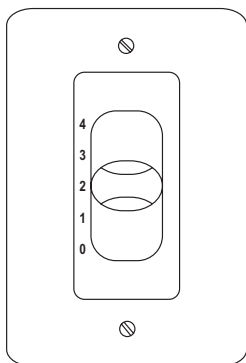

Figure 19
- ☐ 2. Check the operation of the fan by sliding the bar of the control through the four positions marked 1 - 4 ("0" position is OFF) (Figure 19).